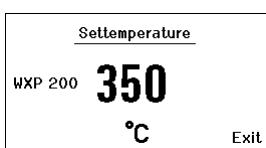

Fig. 10
1. Press and hold down the required selection key (10) for 3 sec. The display changes over to the set-point temperature (see Fig. 10).
2. Set the required set-point temperature with the turn-and-click wheel (5).
3. Confirm the value with the Enter key (6).
4. Exit the parameter menu with key (4).